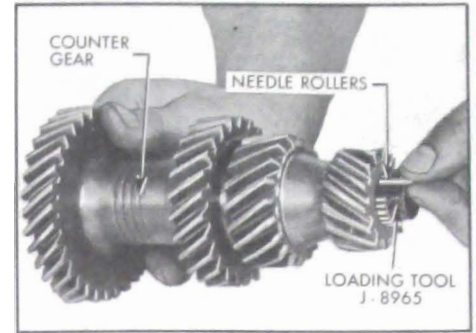

Figure 4-25—Loading Needle Rollers
3. Hold counter gear in vertical position and while supporting bearing loading tool from below, insert inner bearing spacer (washer) and place 22 needle rollers in position around loading tool using heavy grease to hold them in place. Insert outer bearing spacer. Repeat this procedure on opposite end. See Figure 4-25.